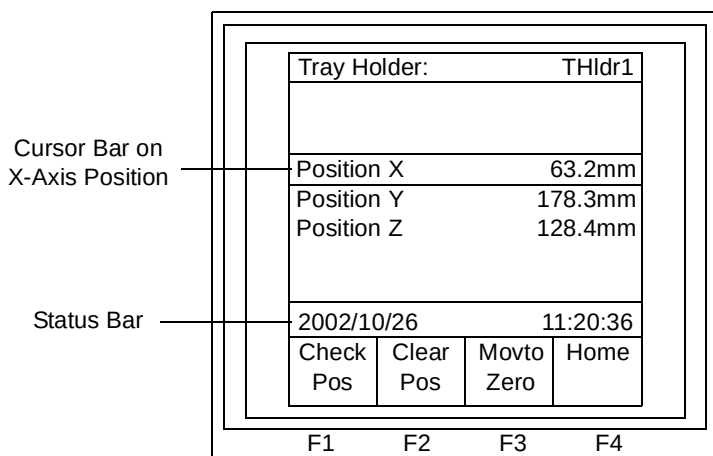

Figure 2-38 Tray Holder: THldr1 Screen
2. Scroll to a predefined *Named_Tray_Holder* (for example, THldr1), then press Enter. The Tray Holder: THldr1 screen appears with current values for the X/Y/Z position (Figure 2-38).